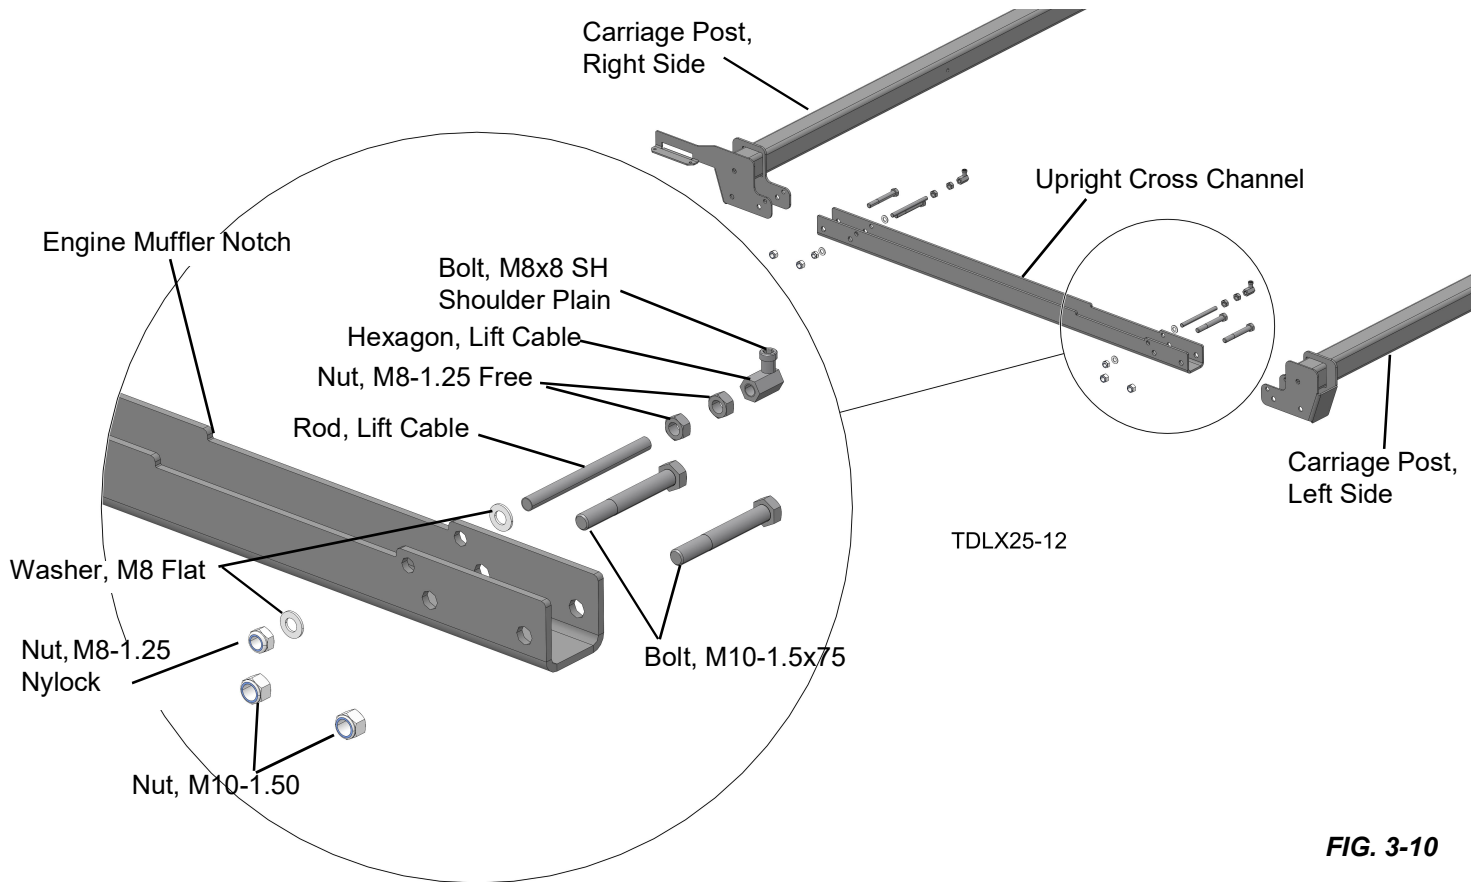

FIG. 3-10
1. Insert the mast cross member into the upright pieces, as shown in FIG. 3-10.
2. Set the bolts in place as shown in FIG. 3-10.